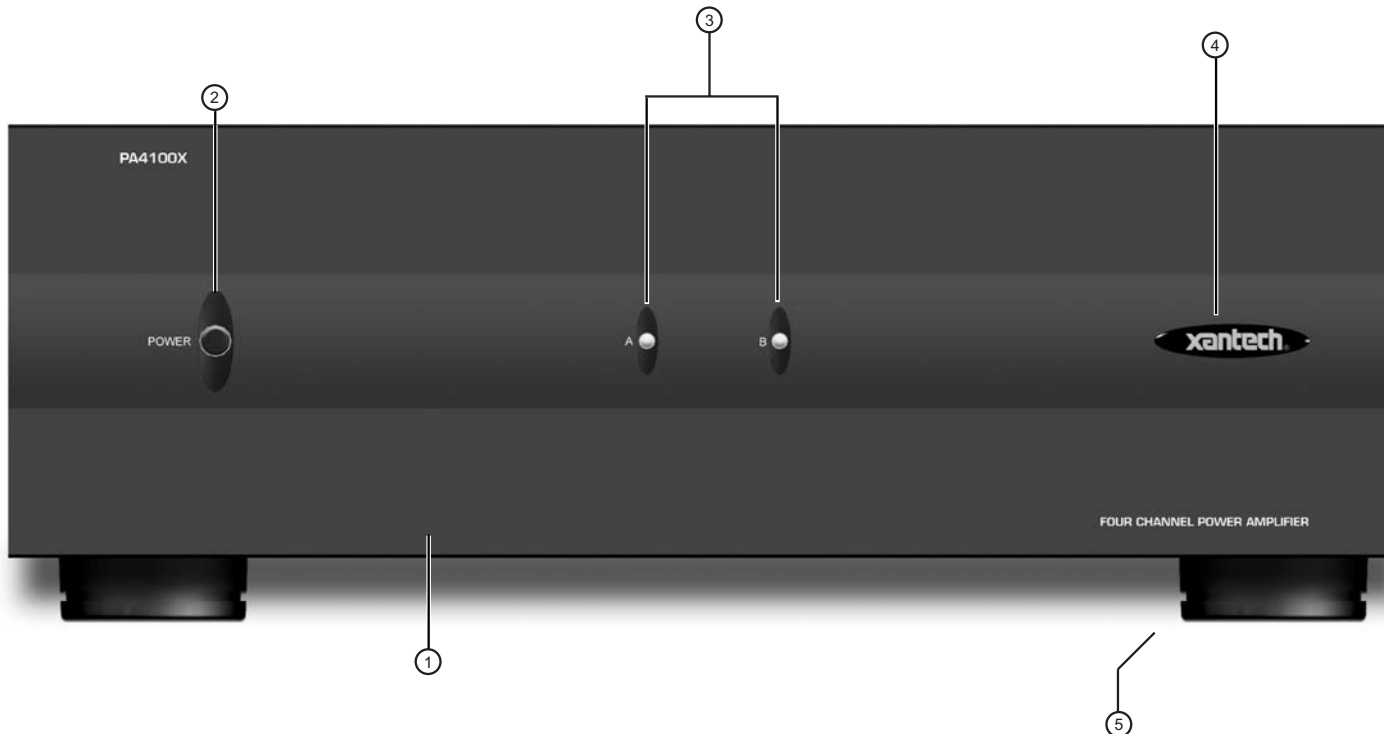

FIGURE 2 – THE MODEL PA4100X FRONT PANEL – FEATURES AND FUNCTIONS
PA4100X becomes very warm, shuts OFF, but does not come back ON automatically.	Set POWER switch (item 2, Fig. 2) to MANUAL OFF (OUT) position for 15 seconds, then back ON. If REMOTE ON/OFF jack is used, unplug for 15 seconds, then re-plug with Front Power OFF.